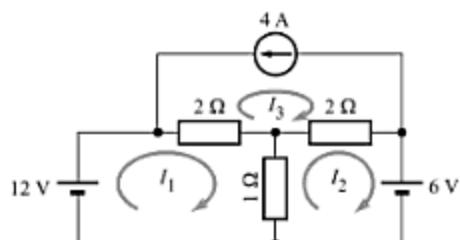

Fig. 3.70
11. Using loop-current analysis, find the loop currents in the circuit shown in Fig. 3.70. [Ans. $I_1 = -0.25 \text{ A}$, $I_2 = -4.75 \text{ A}$, $I_3 = -4 \text{ A}$]